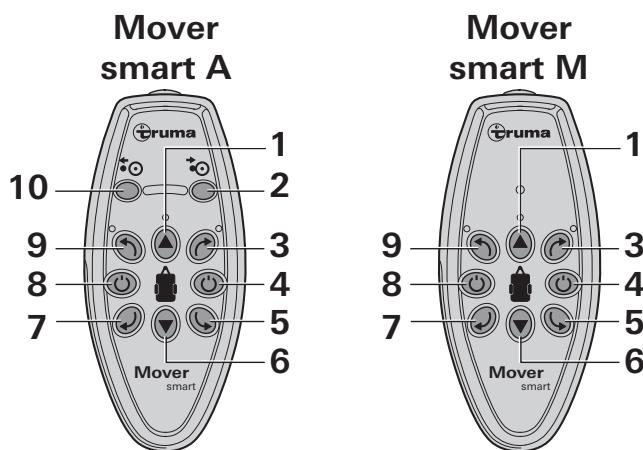
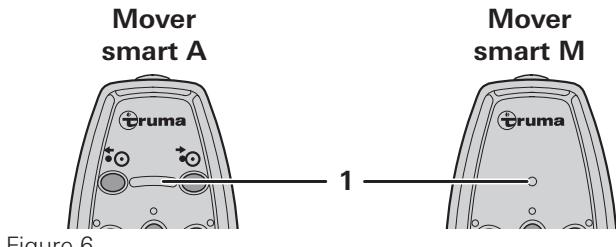

Figure 2
Figure 6
- Press the button (Figure 2 - 8) on the remote control until the LEDs light up (Figure 6 - 1).
! The "Off" switch on the remote control (Figure 2 - 4) can also be used as an "emergency stop switch". In case of problems, e.g. uncontrolled behaviour of the Mover, press the "Off" switch immediately.
- Use the direction buttons (Figure 2 - 3/5/6/7/9) to move the caravan in the required direction.
i If you press opposite direction buttons simultaneously (Figure 2 - 5/9 or 3/7), the caravan rotates around its own axle in the respective direction.
- While moving (forward/backward), the driving direction can be changed with the direction buttons (Figure 2 - 3/9 and 5/7).